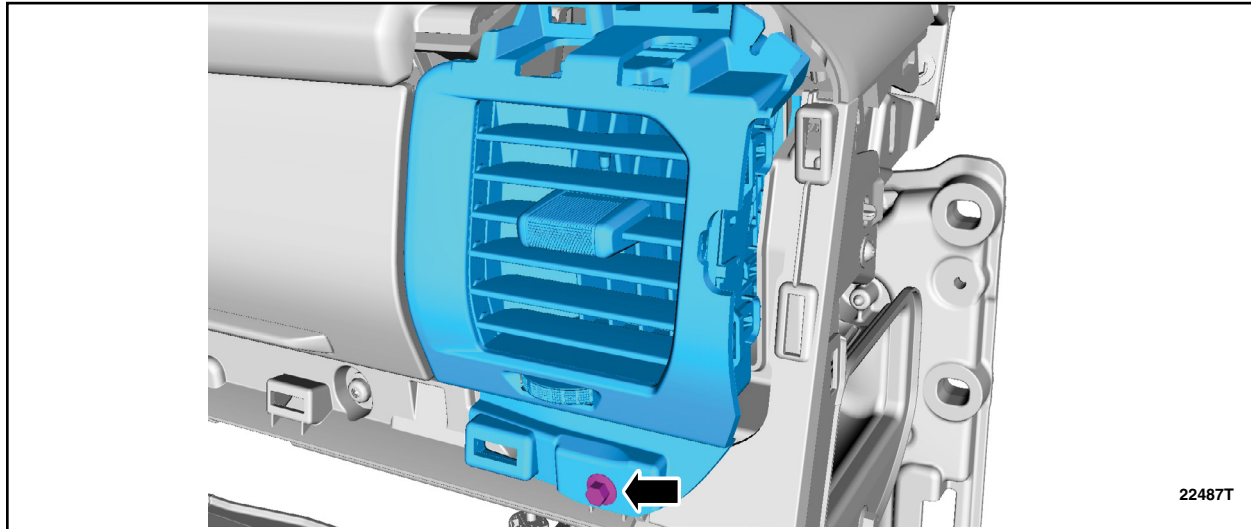

FIGURE 18
19. Remove the bolt and the RH register. See Figure 18.